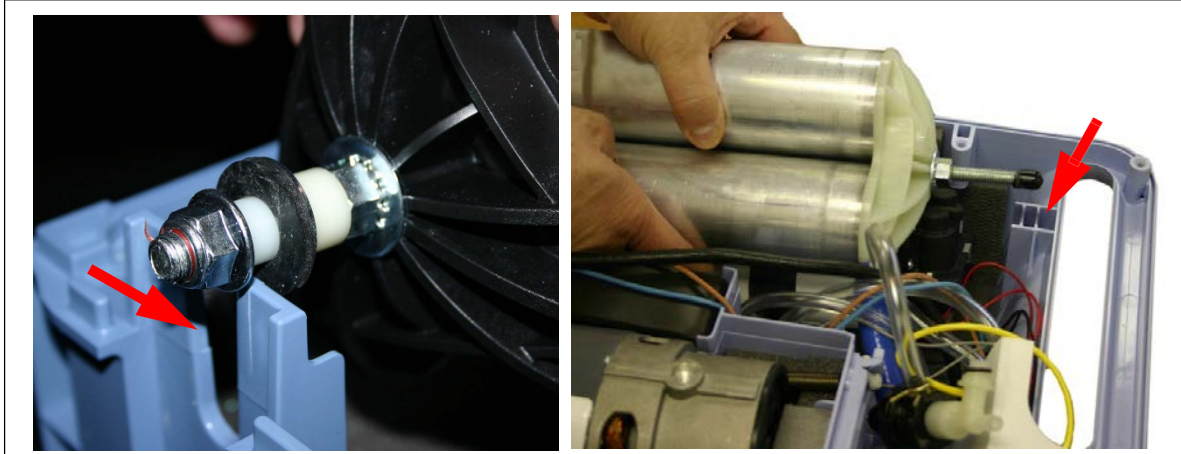

Figure 7-19: SLOT LOCATIONS
3. Secure the Valve Solenoid Assembly to the Sieve Canister Assembly by securing the five screws to 8 in-lbs. using the torque sequence listed in Refer to Figure 7-19.